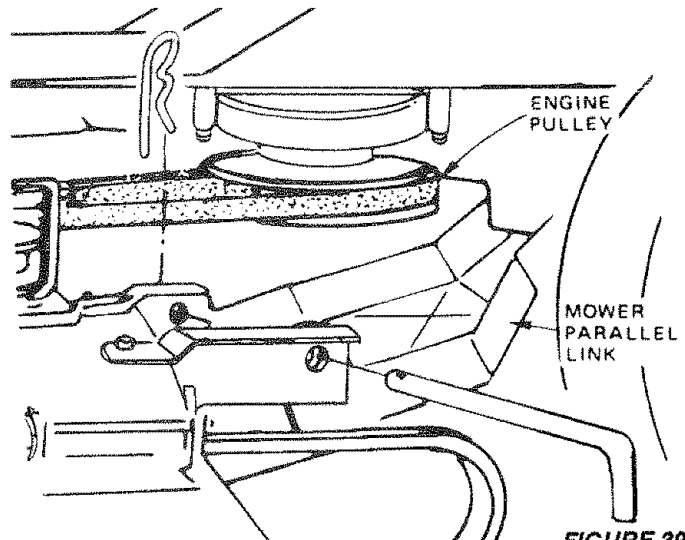

FIGURE 39
- c. Roll belt off engine pulley (Fig. 39).
- Pull belt off engine pulley (Fig. 39).